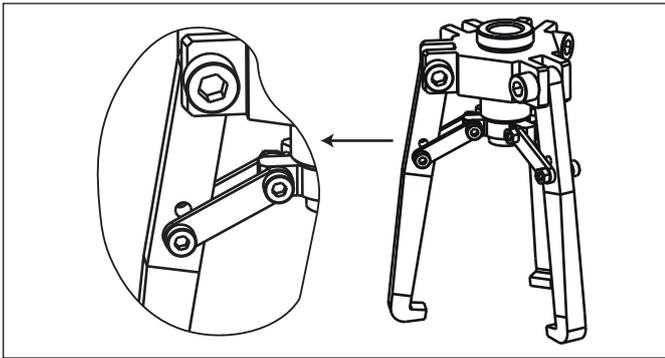

Figure 3: Installation Detail for the Standard Jaw, External Configuration
- Use the lower hole in order to install the jaw in the external configuration. Refer to Figure 3.